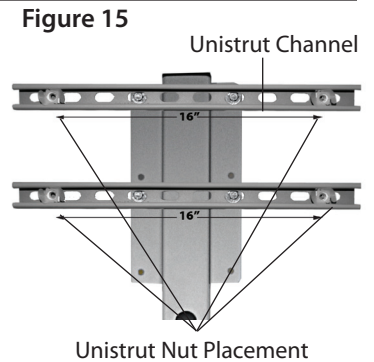

Figure 15
- B. Slide the Unistrut Nuts in 2.25" from each end of Mounting Bar. The Unistrut Nuts will be 16 inches apart, and in position to accept the Wall Mount (Figure 15).